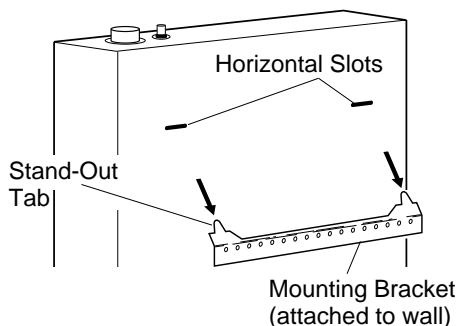

Figure 11 - Mounting Heater Onto Mounting Bracket
1. Locate two bottom mounting holes. These holes are near bottom on back panel of heater (see Figure 11).